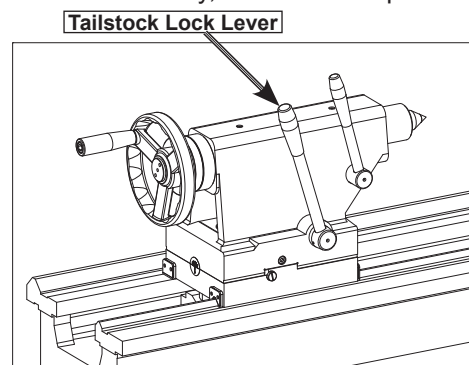

Figure 9. Tailstock lock lever.
3. To balance the lifting load, loosen the tailstock lock lever (Figure 9), move the tailstock to the end of the bedway, then lock it in place.